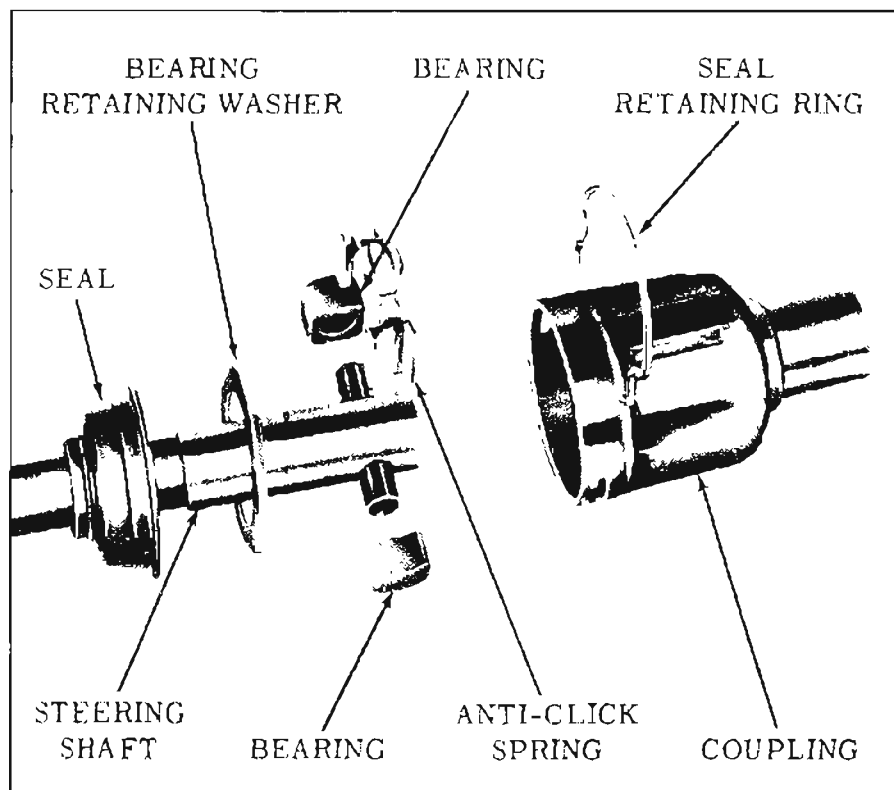

Figure 8-13—Manual Steering Shaft Coupling Assembly
2. Remove coupling seal retainer. See Figure 8-13.